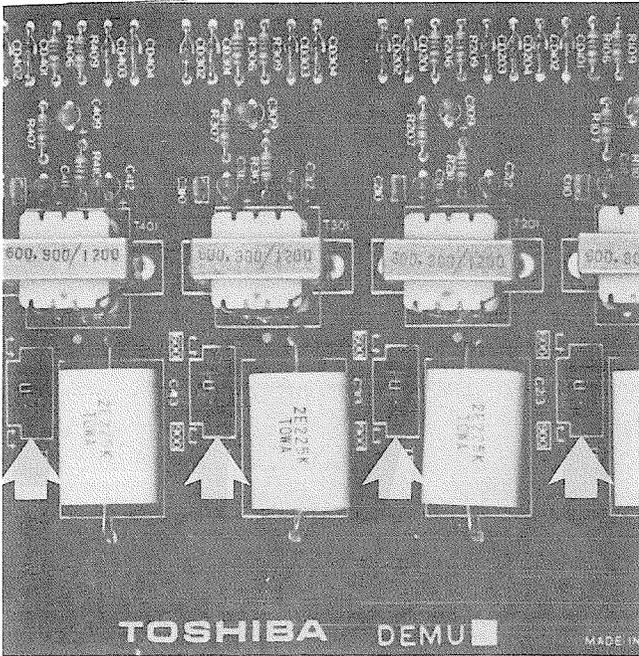

FIGURE 22—DEMU PCB
- a) The selections are made on an individual circuit basis using the strapping terminals (Figure 22):